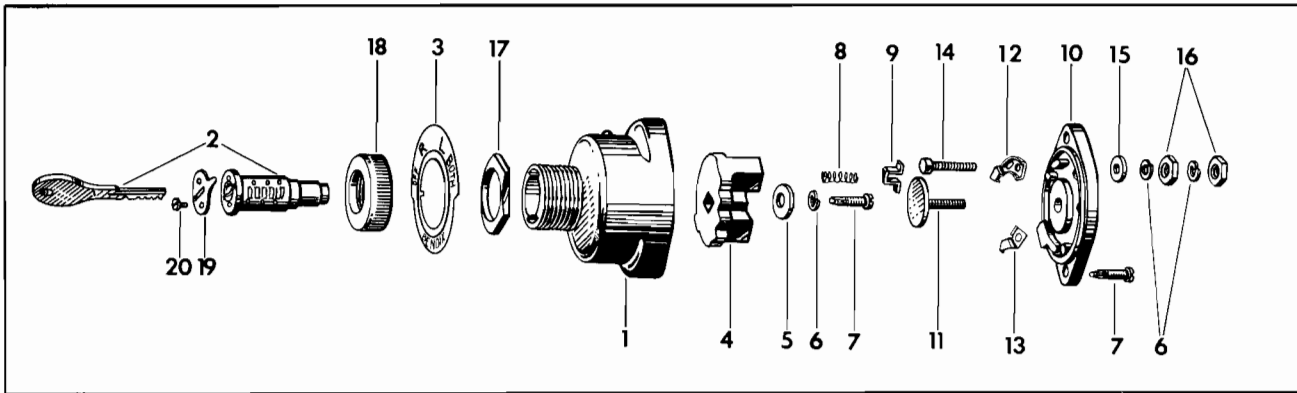

Figure 9. Exploded View GM, GBM Switches
3-27. Inspect switch housing (1, Figure 9), rotor (4), and contact support (10) for possible cracks or other damage. Inspect switch lock assembly (2) and key for wear. When key is inserted, the brass tumblers should be flush with barrel. Any small extensions may be filed off, or a new key may correct this condition. Inspect contacts (9) and contact surface of support (10) for excessive wear. Check positioning spring in the housing. If it is broken or worn excessively, replace housing. Check the fit between switch lock assembly (2) and rotor (4). Slide rotor on lock assembly, and holding rotor with one hand, try to turn lock assembly back and forth with other hand. If there is any excessive movement, replace rotor with one which fits snugly.